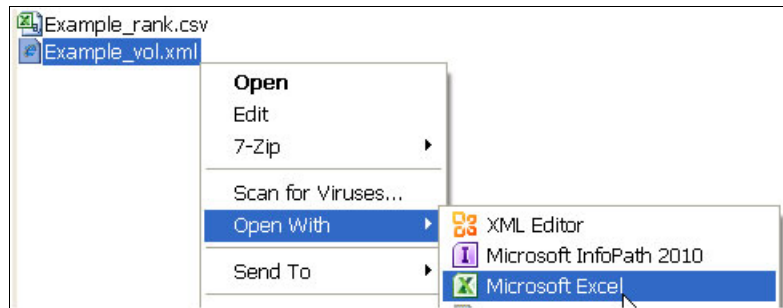

Figure 3 Windows Explorer file list open
1. You simply open the file with Excel and accept the defaults for the import options. Figure 3 shows the file named Example_vol.xml in Windows Explorer.